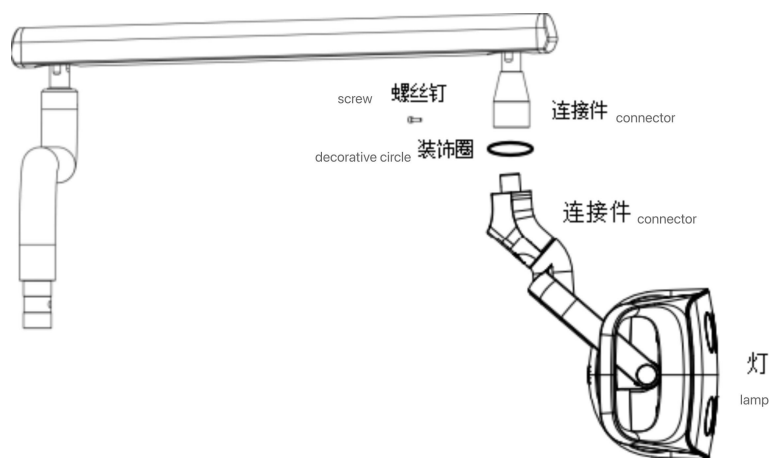

Figure 17
6.4.2 Pass the lamp holder wire insert through the decorative jacket and connect it with the lamp arm wire insert, insert the holder handle into the lamp arm hole, and fix it with the screws in the accessory (Figure 17).